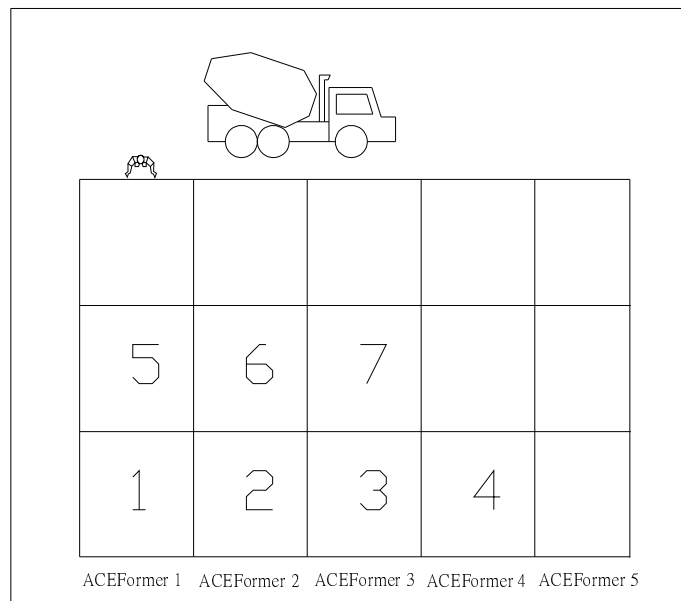

Figure 11. Filling order on long slope
- b. Do not fill the entire ACEFormer™ at once, in case of long slope. Excess pressure may occur at the toe of slope, and fail to achieve an even distribution of the filling. In this case, divide ACEFormer™ into 2 or 3 sections (depending on the length of the ACEFormer™) vertically. Fill the lowest section of ACEFormer™ in a row firstly. And then fill the next upper section of ACEFormer™ after the initial setting of the lowest section. Repeat the process until the entire ACEFormer™ is filled (see figure 11).